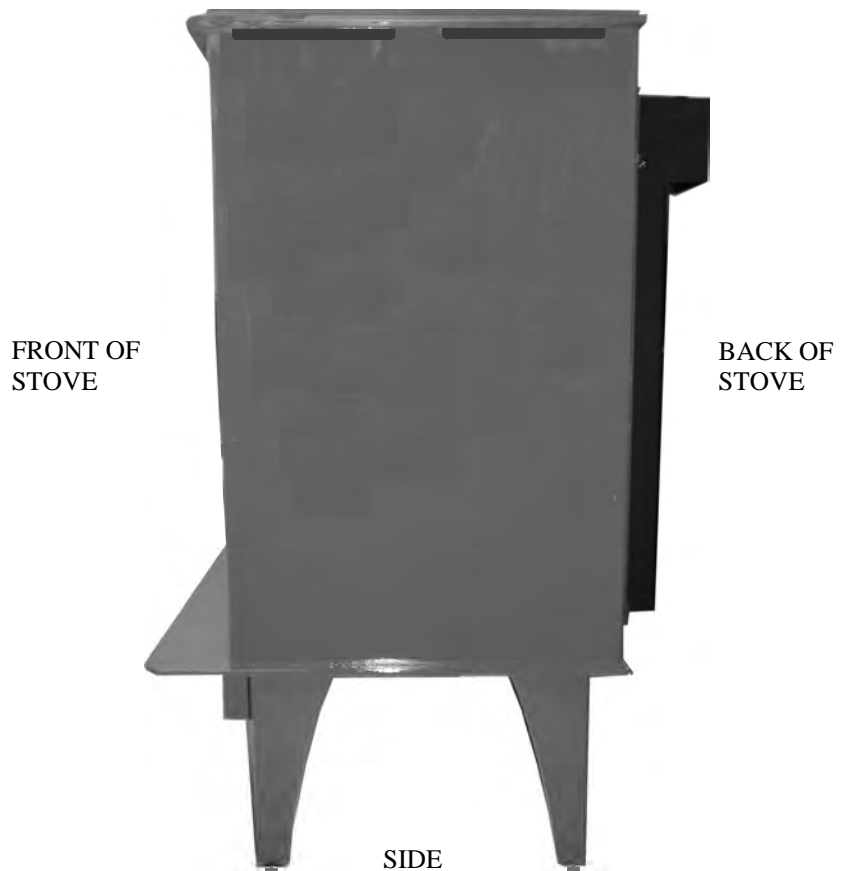

FIGURE 4
3. Using drop cloth or blanket to protect floor, carefully lay stove body on back. Remove hold down brackets from the two legs by unscrewing two bolts holding brackets. Now replace two bolts in bottom of legs. The bolts are used for leveling adjusters. Place unit in upright position. (See Figure 4).